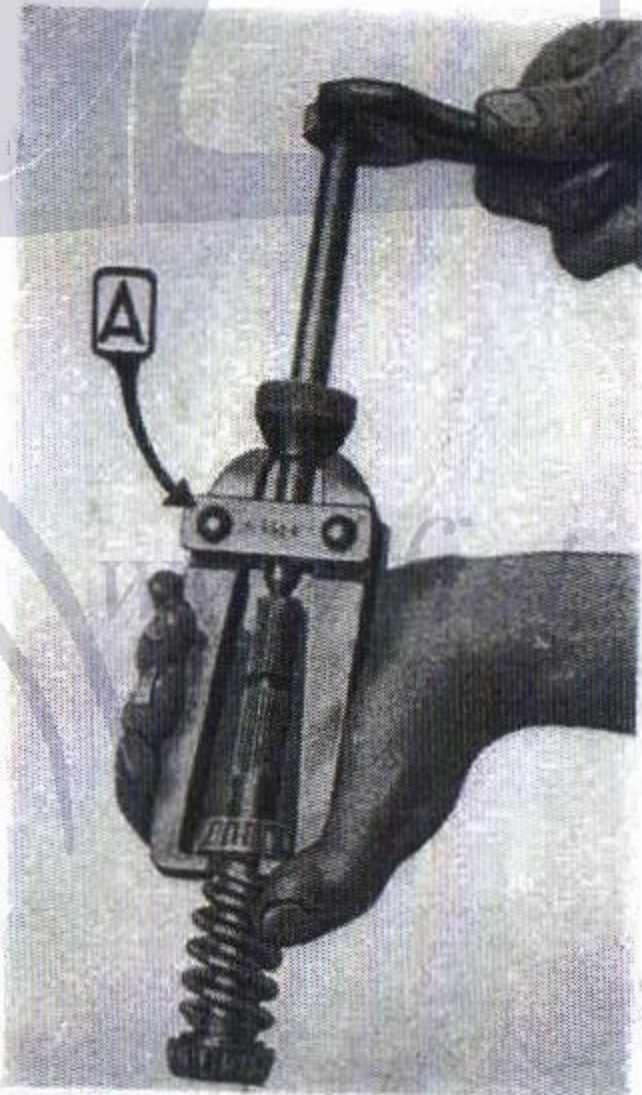

Fig. 97.
- A. 6514 (Fig. 97) Puller for the inner rings of the worm roller bearing.